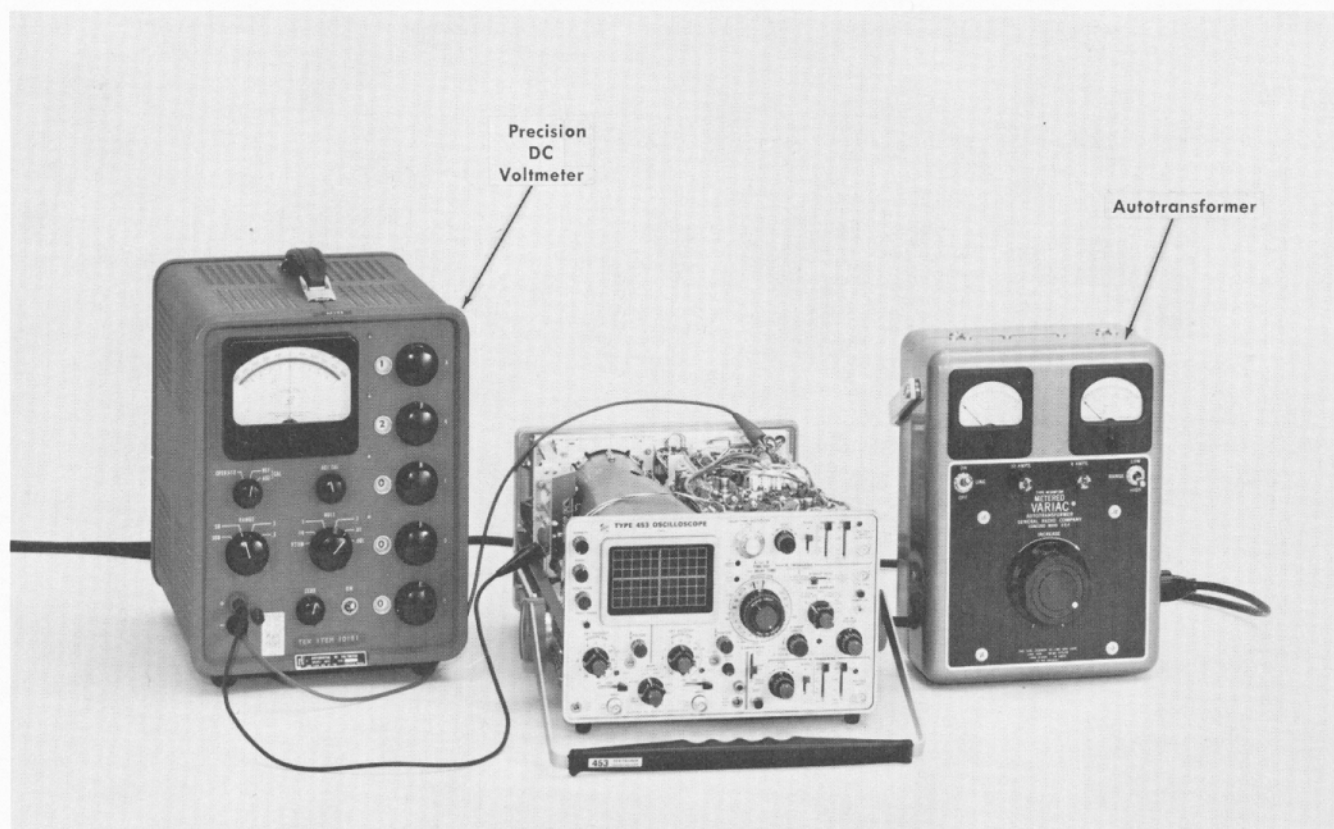

Fig. 6-4. Initial test equipment setup for steps 1 through 3.
①
- Test equipment setup is shown in Fig. 6-4.
- a. Test equipment setup is shown in Fig. 6-4.